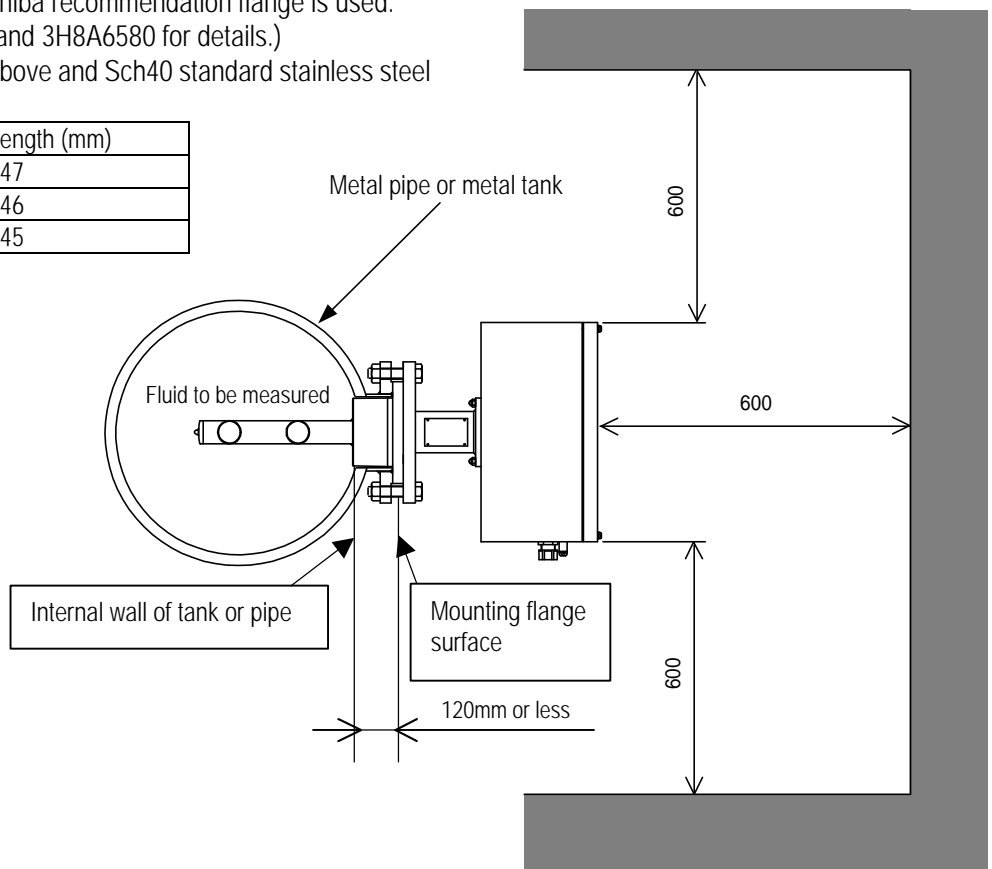

Figure 3.2.1 Maintenance Space
- (1) Choose a place that is free of vibrations and corrosive gasses, and has ample space for maintenance.
- (2) Secure maintenance space in front, rear and above the density meter. (Refer to fig. 3.2.1)
- (3) In the case of outdoor installation, provide covering against sun.
- (4) Do not install the meter in a place where there is a possibility of leakage of flammable or explosive gas.
- (5) Use a strength pipe, connected at both upstream and downstream sides, to securely install the detector main body, or provide a supporting structure for the detector main body. (Weight of this unit is shown in the external dimension list as attached.)
- (6) When the density meter is used in an application where the process fluid contains plenty of fur or fiber, these substances may accumulate or entangle in the density meter and thus perform the maintenance operation periodically (clean the insertion probe area).
- (7) The tank or pipe where this density meter is installed should be metal.
- (8) Install the density meter in a place where the density distribution is even. If the density distribution is not even, manual analysis data and the indication value of the density meter may not be the same.
- (9) Install this density meter in a piping system where bubbles are not found, and fluid does not empty itself, and also sedimentation and accumulation of materials does not occur.